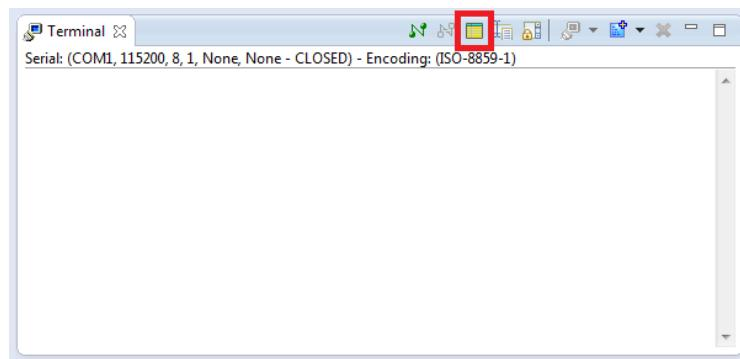

Figure 8-44. ARM DS-5 Serial Terminal
- We will use the built-in serial terminal available in *ARM DS-5*. Go to “Window > Show View > Other... > Terminal > Terminal” to open *ARM DS-5*'s the built-in serial terminal. You should see the terminal shown in Figure 8-44.